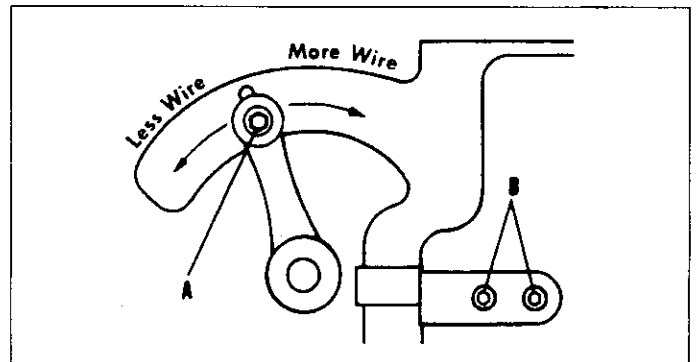

Figure 5
5. To increase or decrease the leg length of the stitches, loosen the screw of the wire feed index lever (Index A, figure 5) and the cutter block (Index B, figure 5). Move the wire feed index lever to the right for more leg length—to the left for less leg length. Tighten screws of index lever and cutter block. Repeat step 5.